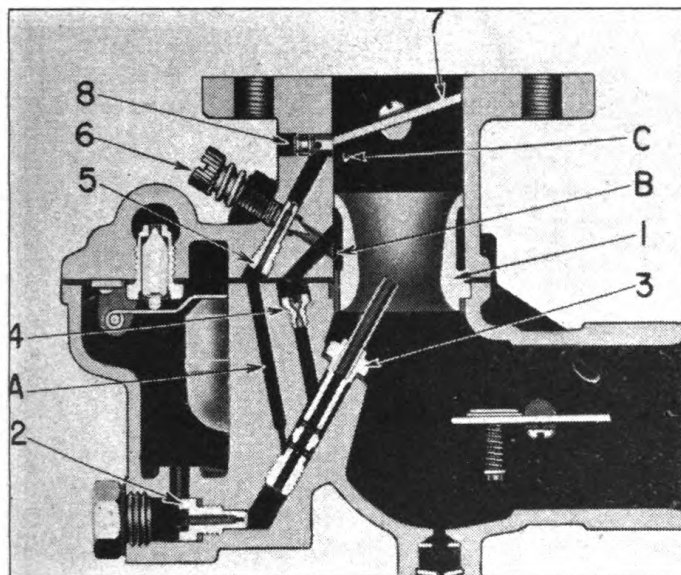

Fig. 19. Sectional View of Zenith Carburetor Used on "SI" Tractor
1. Remove idling adjusting screw (6 Figure 19) and spring.
5. Remove the venturi (1 Figure 19).
10. Remove idling jet (5) using a small screw driver ($\frac{3}{16}$ " blade).
14. Remove the well vent (4 Figure 19) using a small screw driver ($\frac{3}{16}$ " blade).
15. Remove main discharge jet (3) and gasket using Zenith C161-25 Service Tool.
17. Remove main jet (2) and gasket using C161-1 Service Tool (or a suitable screw driver).
2. Install air shutter plate screws and lockwashers. Be sure air shutter valve is in correct position as shown in Figure 19 and that the air shutter plate is properly centered before tightening the screws securely.
5. Replace main jet (2) and new gasket using Zenith Service Tool C161-1.
7. Replace main discharge jet (3) and new gasket using Zenith Service Tool C161-25.
8. Replace well vent (4) using a small screw driver (no gasket required).